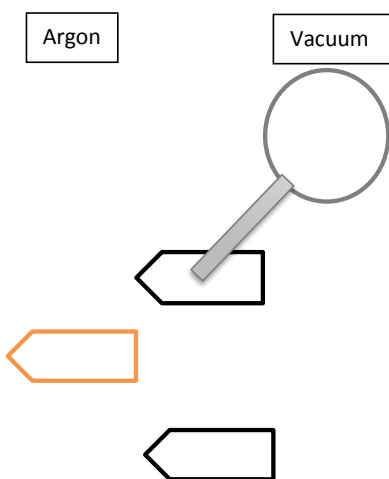

Figure 2 – system is closed
1. Close the system by turning the bottom knob to its horizontal position (figure 2).
14. Switch the top knob to argon (should look like figure 2).
17. Fill flask about halfway and close the middle solvent knob by returning it to a horizontal position (should look like figure 2).